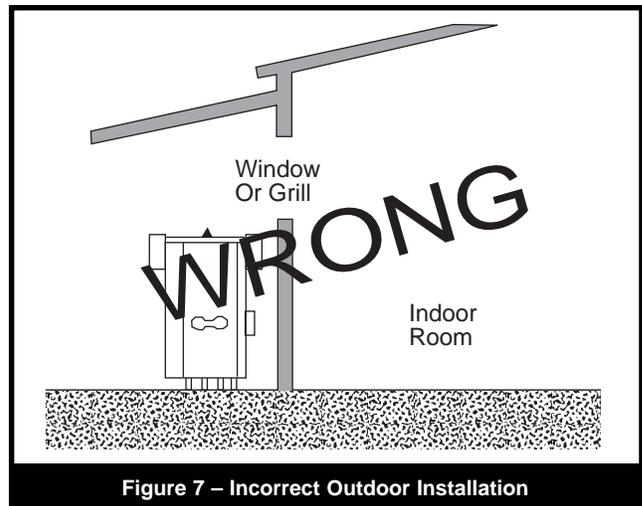

Figure 7 – Incorrect Outdoor Installation
2. Do not place the heater in an enclosure or wall recess. Avoid locations where wind deflection off structures might cause down draft. When such wind conditions are possible, place the heater at least three (3) feet from the structures.
3. Never install the heater under any kind of roof overhang. Do not place the heater below or adjacent to any doors, windows, louvers, grills, etc. which connect in any way with an inhabited area of a building. This includes other structures such as garages or utility rooms (see **Figure 7**).